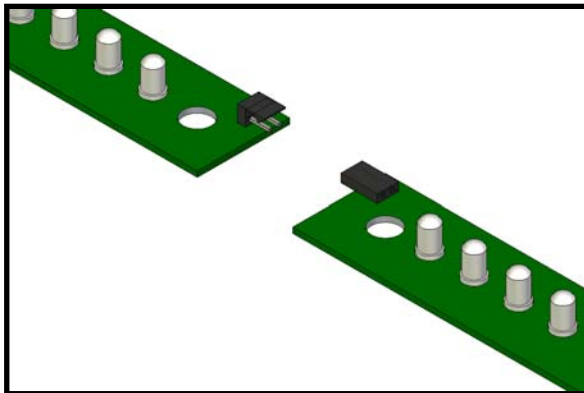

Figure 23
- d) Obtain another light strip and plug the proper end into the strip that was just mounted. See Figures 23 and 24 for details of how the strips plug into one another.